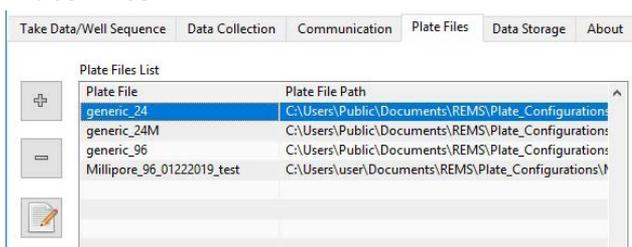

Fig. 25 — Plate Files Tab
**Plate Files List:** This list shows the names of the plate files that are immediately available for selection (Fig. 25). The highlighted file is the one that is currently loaded in the system. The selected file appears in the *Plate File* field in the bottom left corner of the **REMS** status window. This list only displays the plate files that have been added to the *Plate File List* from the plate configuration file folder.